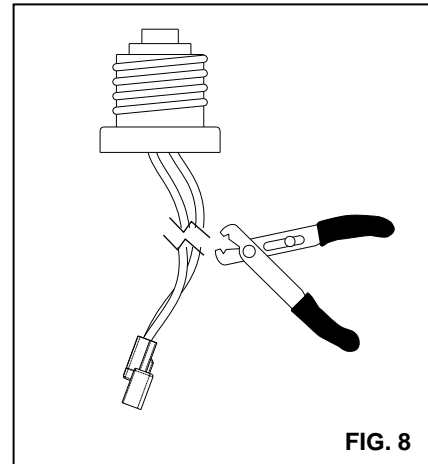

FIG. 8
2. Cut off the E-26 screw base from socket adaptor provided with this luminaire. **(FIG. 8)**